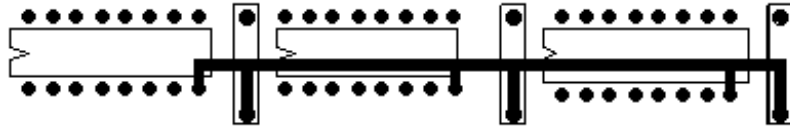
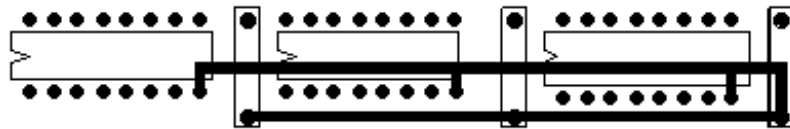

Figure 31
Figure 32
*Minimum bus spacing* This setting is used to reduce the number of power buses on the layout. For example, the power routing in Figure 31, would usually be preferred to that in Figure 32.